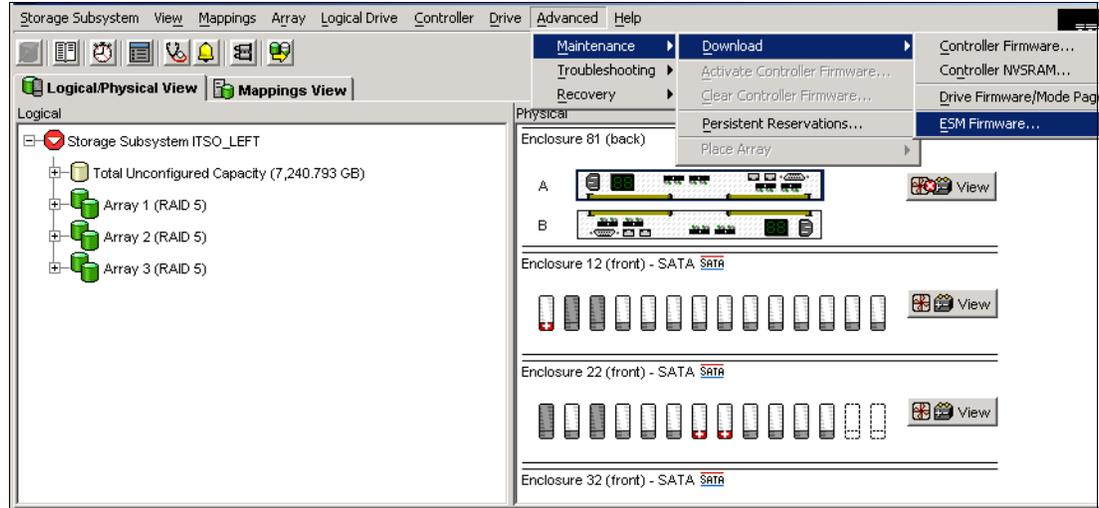

Figure 12-17 ESM firmware upgrade option
1. From the Subsystem Management window, select the **Advanced** → **Maintenance** → **Download** → **ESM Firmware** pull-down menu option (Figure 12-17).